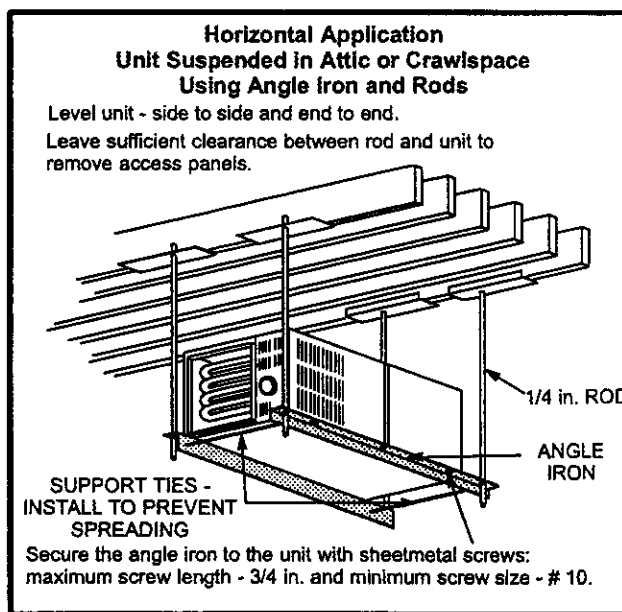

FIGURE 11
- 2 - Using angle iron with at least 1/4 in. diameter rods - Install as shown in figure 11.